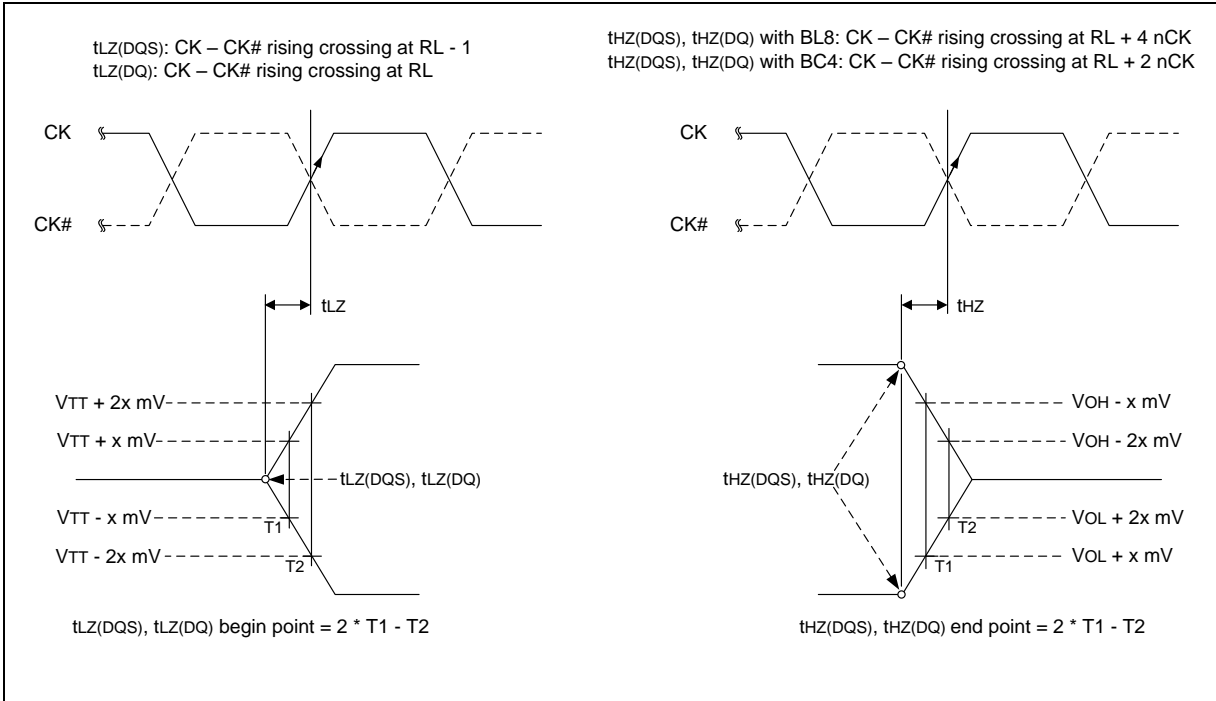

Figure 26 – tLZ and tHZ method for calculating transitions and endpoints
$t_{LZ}(DQS)$, $t_{HZ}(DQS)$ for preamble/postamble (see section 9.13.2.3 and Figure 26).
9.13.2.3 tLZ(DQS), tLZ(DQ), tHZ(DQS), tHZ(DQ) Calculation
thz and tlz transitions occur in the same time window as valid data transitions. These parameters are referenced to a specific voltage level that specifies when the device output is no longer driving thz(dqs) and thz(dq), or begins driving tlz(dqs), tlz(dq). Figure 26 shows a method to calculate the point when the device is no longer driving thz(dqs) and thz(dq), or begins driving tlz(dqs), tlz(dq), by measuring the signal at two different voltages. The actual voltage measurement points are not critical as long as the calculation is consistent. The parameters tLZ(DQS), tLZ(DQ), tHZ(DQS), and tHZ(DQ) are defined as singled ended.